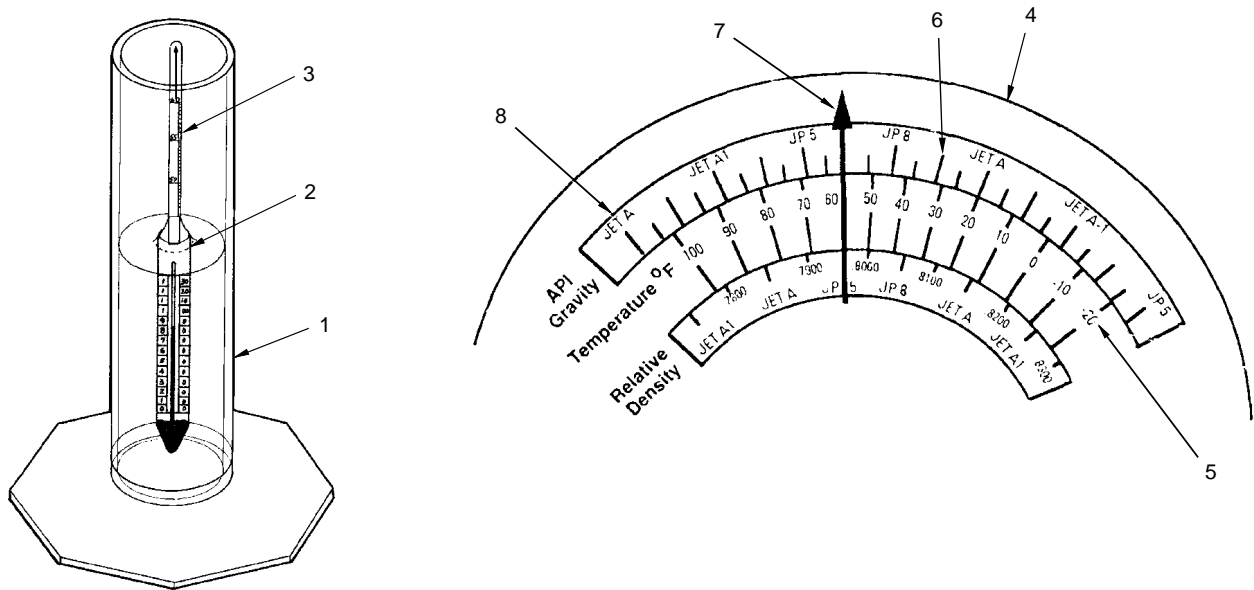

Figure 3. API Specific Gravity Determination
- c. Inspect the thermohydrometer (1) to ensure none of the round beads at the bottom are loose. Also check the thermometer to ensure there is no separation in the mercury column. Discard any thermohydrometer that fails inspection.
- d. Remove the 1,000 ml sample bottle (19) and one of the hydrometer cylinders (2) from the fuel contamination test kit.
- e. At one of the fuel drums, place the 1,000 ml sample bottle (19) directly beneath the elbow coupler valve, slowly crack open the valve and fill the sample bottle approximately 75 percent full.
- f. Pour fuel directly from the sample bottle (19) into the hydrometer cylinder (2) until it is approximately 75 to 85 percent full.
- g. Position the hydrometer cylinder (2) on a flat surface once it has been filled.
- h. Remove any air bubbles on the top of the liquid surface by gently tapping the palm of the hand on the top of the hydrometer cylinder (2).
- i. Lower the thermohydrometer (1) gently into the liquid until it reaches a point where it will float by itself. Using the stem, impart a spin on the thermohydrometer (1). (Spinning the thermohydrometer (1) will help center it in the hydrometer cylinder (2) and keep it from sticking to the side of the hydrometer cylinder (2)).
- j. Allow approximately five minutes for the temperature of the thermohydrometer (1) to equilibrate with the temperature of the fuel sample.
- k. Position the eye slightly below the surface of the fuel in the hydrometer cylinder (figure 3,1) and read the API specific gravity where the fuel cuts across the scale divisions (2) on the stem of the thermohydrometer (3). Leaving the thermohydrometer (3) in the fuel, read the temperature inside the body of the thermohydrometer (3). Record the readings.
- m. On the API gravity calculator (figure 3, 4), align the fuel temperature (5) (in Fahrenheit) with the API gravity reading (6) from step k. above.
- n. Read the corrected reading on the API gravity calculator (4) at the 60 degree temperature line (7). The corresponding API gravity reading is the corrected API specific gravity and fuel type (8).